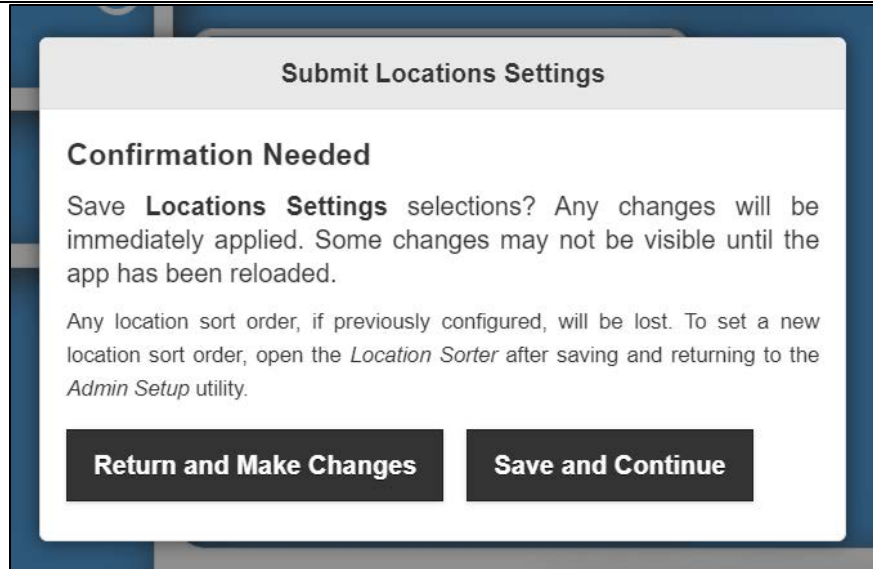

Figure 7-14 – Submit Location Settings Dialog
- **Save Configuration** - Applies changes and exits. A dialog (Figure 7-14) confirms this action.